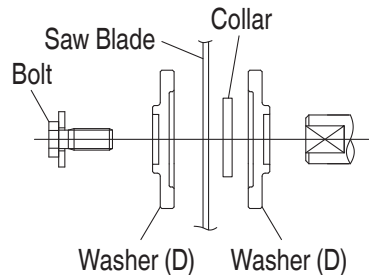

**Fig. 27**
1. Mounting the saw blade (**Fig. 26**, **Fig. 27** and **Fig. 28**)